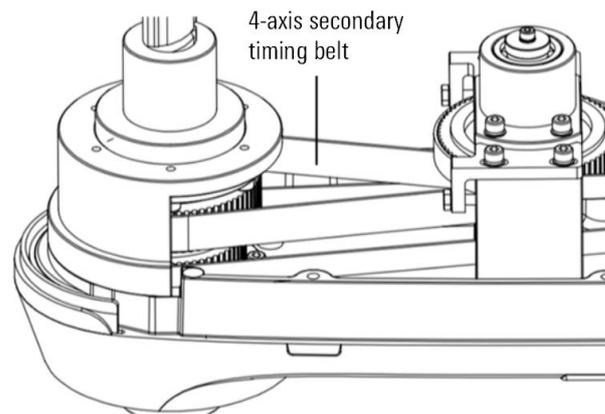

Figure 8-16 Diagram of disassembling 4-axis secondary synchronous belt
Step6. Remove the 4-axis secondary timing belt, install a new timing belt, and install other timing belts, as shown in Figure 8-16, and then re-fix the screw spline flange to the forearm.